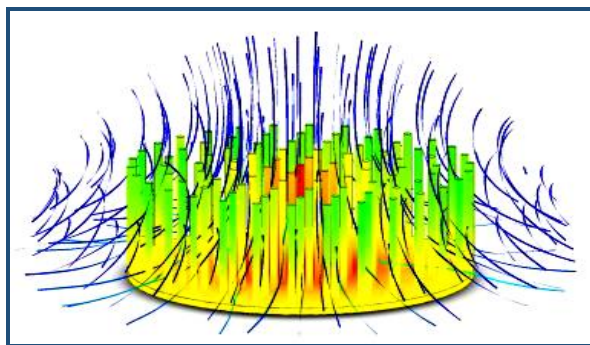

Figure 9.2: Temperature contour and velocity vectors from a set of circular fins
5. Analyze the results using the Ansys CFD post to get the contour as shown in Figure9.2.